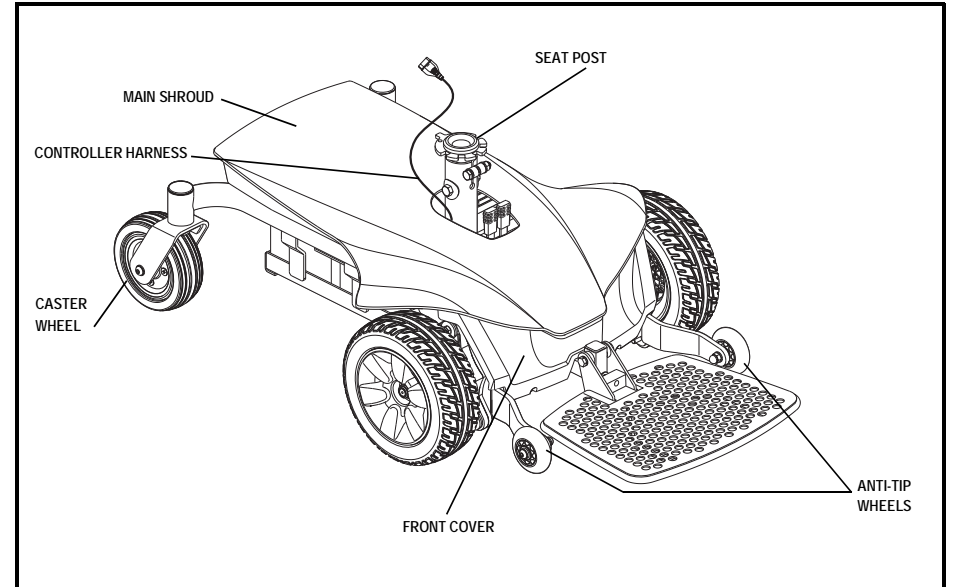

Figure 6. The Jazzy Select Elite Power Base
5. Plug the controller harness into the connector on the power base. **See figure 6.**